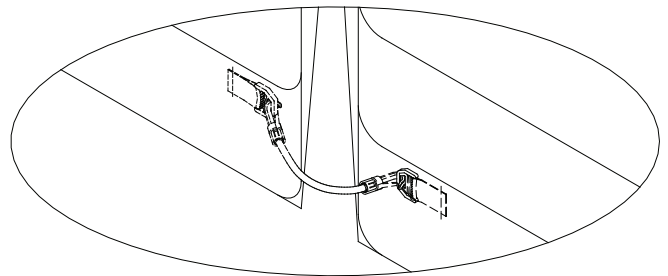

FIGURE 3
1. Locate the windstrap attachment rings on each front edge of the head curtain. (See Figure 3)
2. Attach the hook end of the windstrap to the attachment rings. (See Figure 3)